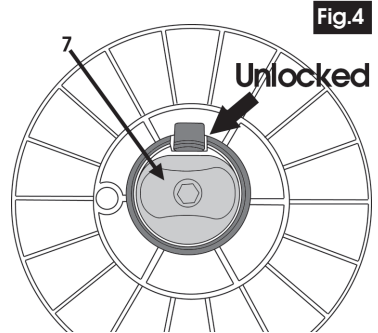

Fig.4
3. Turn the plastic knob with cam (7) to the position shown in Fig. 4, i.e. with the flat uppermost, so that the latch is unlocked, and pull off the collar (6).